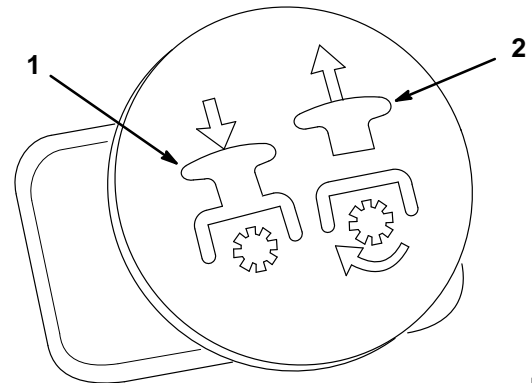

Figure 23
3. Pull the power take off (PTO) switch to ON (Fig. 23).